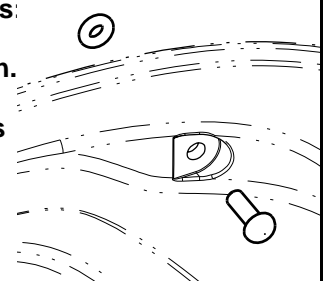

Figure 3
- 10. Install the lens by using the 6 tamper-proof screws (1). To insure water tightness, o-rings (3) have to be installed from the inside (see figure 3).